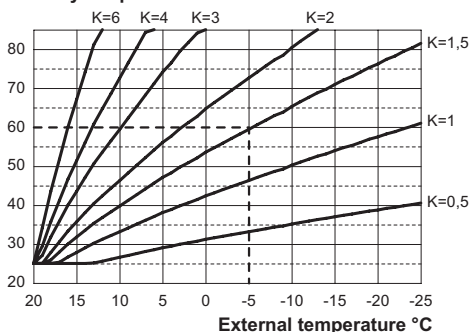
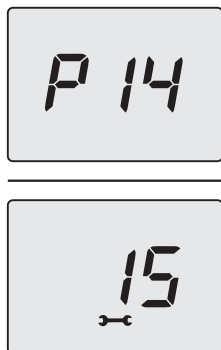

Figure 5.54
Figure 5.60
If the remote control **IS CONNECTED** to the boiler (optional), refer to Figure 5.54.
When installing the external sensor, this parameter must be set based on the efficiency of the heating system to optimise the delivery temperature (Figure 5.54).
E.g. To achieve a heating system delivery temperature of 60°C with an outdoor temperature of -5°C, set a K of 1.5 (dashed line in Figure 5.54).
- Pressing the 12 or 14 keys, it is possible to change the value of parameter 14 from a minimum of **00** to a maximum of **60** based on the selected curve of the K coefficient in Figure 5.54 (the value shown on the display, in Figure 5.60, corresponds to **K = 1.5**).